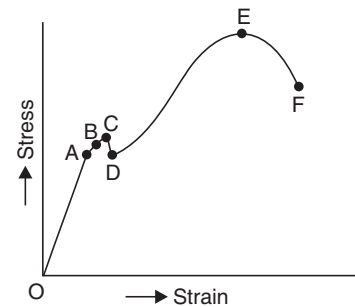

FIGURE 8.18
11. Figure 8.18 shows the stress-strain curve for mild steel. Hook's law holds good upto
12. The point A in Fig. 8.18 represents
13. The point C in Fig. 8.18 represents
14. The point D in Fig. 8.18 represents
15. The point F in Fig. 8.18 represents
16. The stress corresponding to point E in Fig. 8.18 is called
17. The stress corresponding to point F in Fig. 8.18 is called